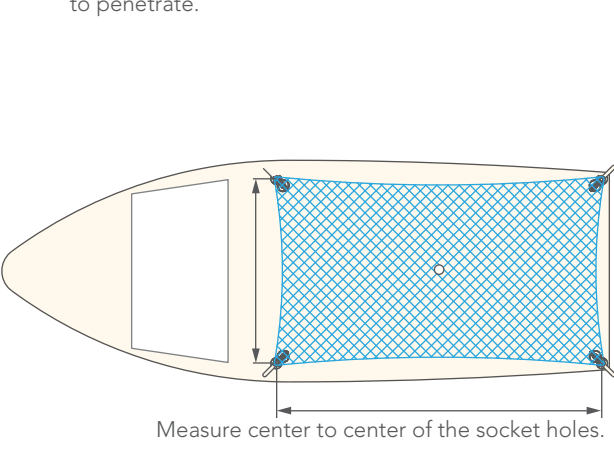

Fig. 4
1. Measure center to center of the socket holes which leaves the canvas smaller than the outmost points of poles. (Fig. 4)